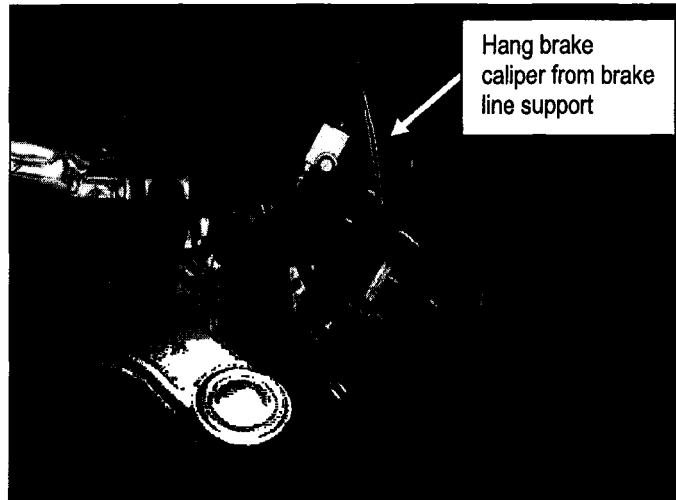

Figure 2
2. Remove both brake calipers and hang them from the brake line supports with wire (see Figure 2).